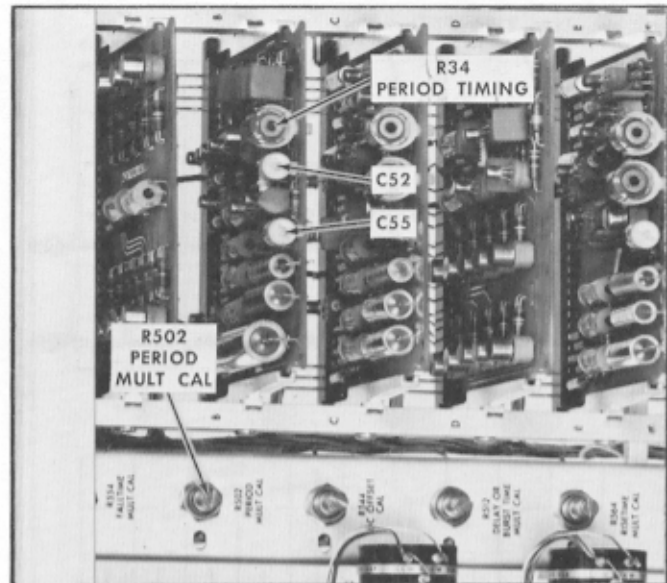

Fig. 7-38. Location of period timing adjustments on the Period Generator (Series B) card and the Type R116 chassis.
- g. Adjust — R34 (PERIOD TIMING) on the Period Generator circuit card (Series B) if the display is not correct. See Fig. 7-38 for the location of R34.
- l. Adjust — R502 (PERIOD MULT CAL) on the Type R116 chassis (see Fig. 7-38) if the display is not correct.
- r. Adjust — C52 on the Series B card (see Fig. 7-38) if the display is not correct. Remove the adjusting tool from the capacitor while checking the display.
- w. Adjust — C55 on the Series B card (see Fig. 7-38) if the display is not correct.